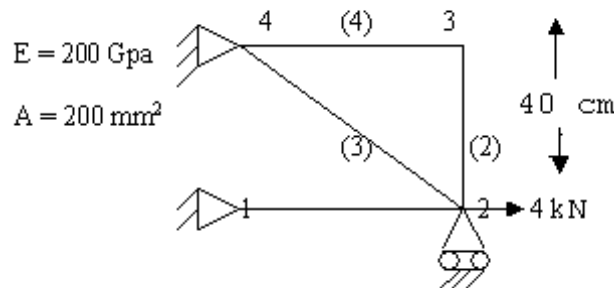

Figure 3
3. For the truss structure shown in figure 3 is subjected to a horizontal load of 4 kN in positive x-direction at node 2. Calculate